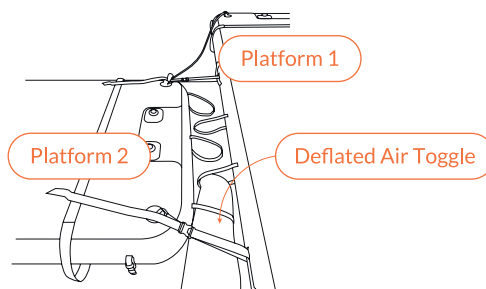
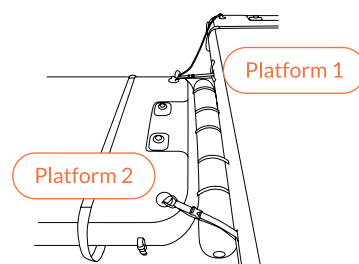

Fig 84 – Feed deflated Air Toggle through the Air Toggle loops
Fig 86 – Inflation complete and Platforms connected
Fig 84 and Fig 86 depict a T-shape (Jet-ski dock) configuration, but the same principle applies for all connections.
1. Bring the Platforms together and feed the deflated Air Toggle through all of the Air Toggle loops (Fig 84).
4. The Platforms will then be connected (Fig 86).